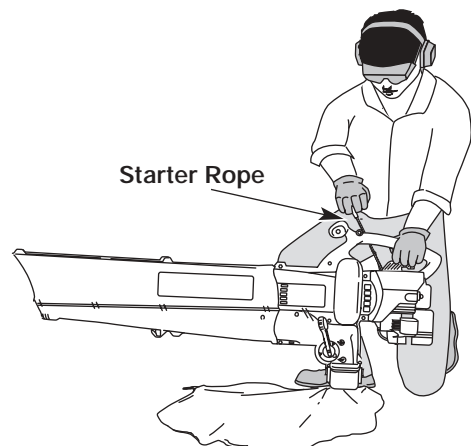

Fig. 12
6. Pull starter rope briskly (Fig. 12). Continue pulling until the engine sounds as though it wants to run (normally 2 to 5 pulls).
8. Pull starter rope briskly 1 to 3 times to start the engine (Fig. 12).